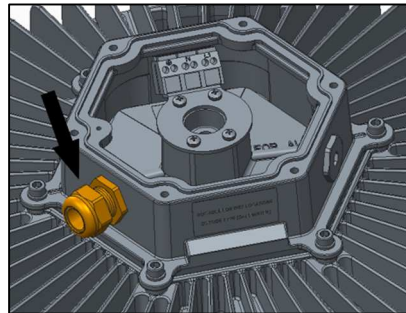

Fig.8
3. Install a cord grip to suit the gauge source wiring being used [Fig.8]